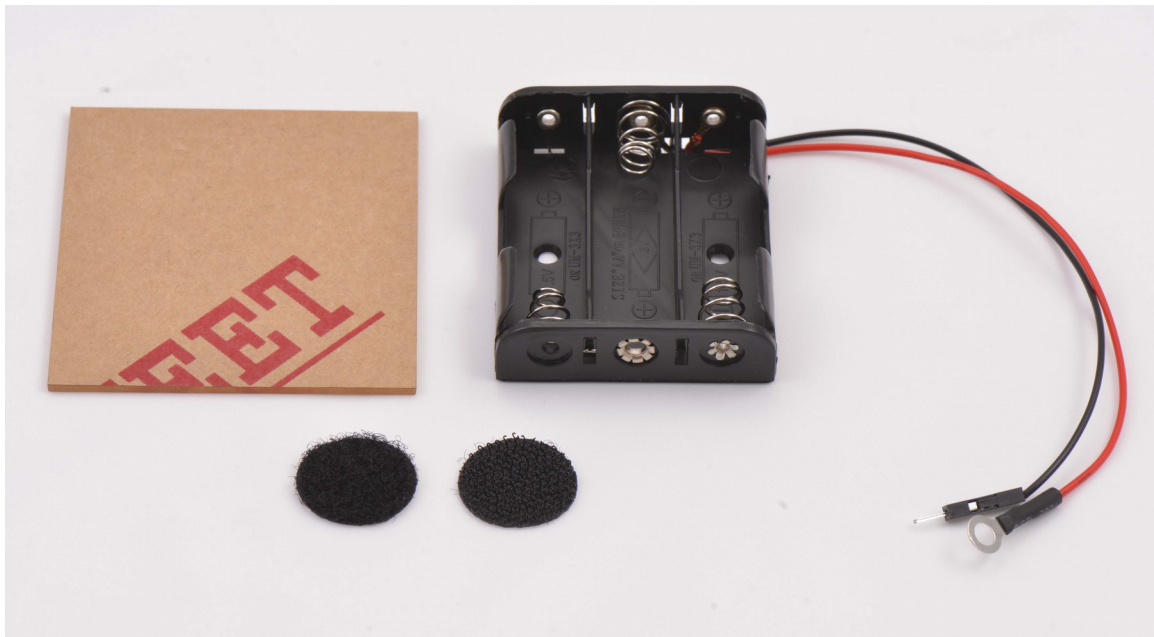

Figure 2.20
Locate the three AA battery carrier, the clear plastic battery slide, and one (1) velcro set, as shown in figure 2.20.